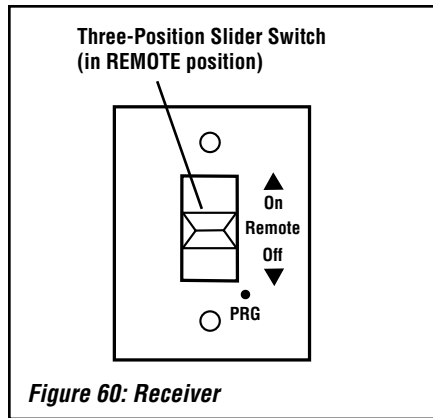

Figure 60: Receiver
Place the three-position slider switch in the "Remote" position (see **Figure 60, next page**). Using the end of a paper clip, or other similar object, insert the end of the paper clip into the hole marked "PRG" on the Receiver front cover. The Receiver will "beep" three (3) times to indicate that it is ready to synchronize with a Transmitter.